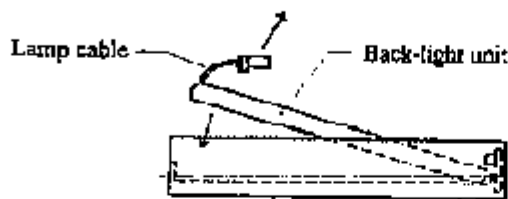
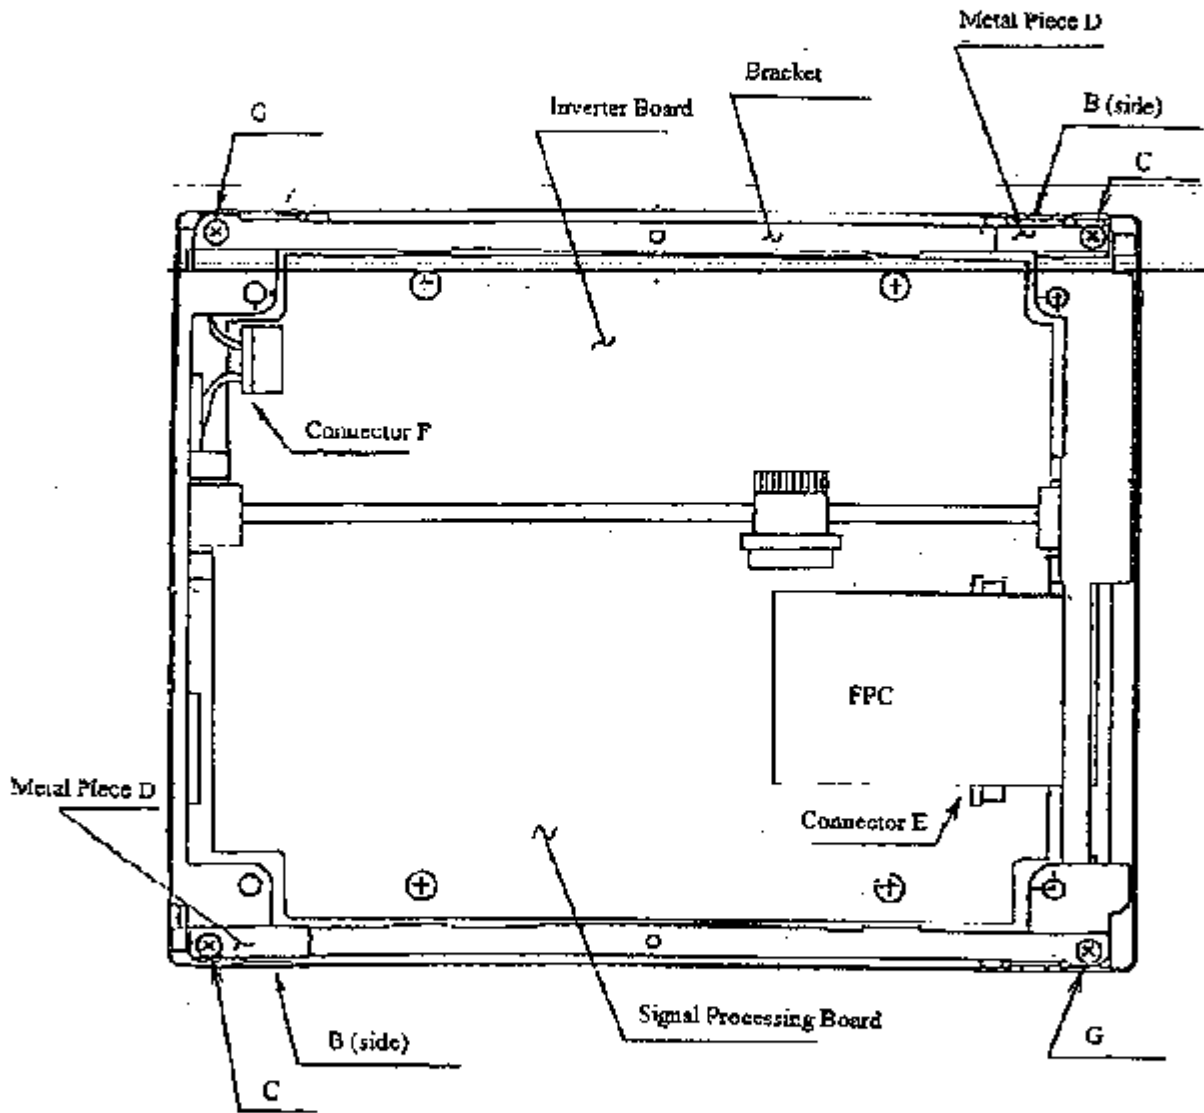

Figure 4
Figure 2.
- (6) Remove two Philip screws B and two Philip screws C in Figure 2 not to injure electrical parts on the inverter board and the signal processing board.
- (7) Remove two metal pieces D in Figure 2 by tweezers.
- (9) Remove two Philip screws G in Figure 2.
- (10) Lift up the bracket with inverter board and signal control board slowly, and remove it.
- (11) Remove the back-light unit pulling the cable of itself slowly and gently not to give unusual stress to around it as shown in Figure 4.
- ~~(12) Replace the back-light slipping into the frame slowly from the right side of back-light unit as shown in Figure 4.~~
- (13) Re-attach the bracket with inverter board and signal control board slowly. Then be careful not to injure the FPC, put through it to the slit of the bracket.
- (14) Fix the bracket with two retaining screw G.
- (15) Push the lamp cable plug into connector F of inverter board not to injure the lamp cable.
- (16) Slip the FPC into the connector E of signal control board not to injure the FPC.
- (17) Re-attach two metal piece D with two retaining screw B and C.
- (18) Re-attach the rear cover with two retaining screw A.